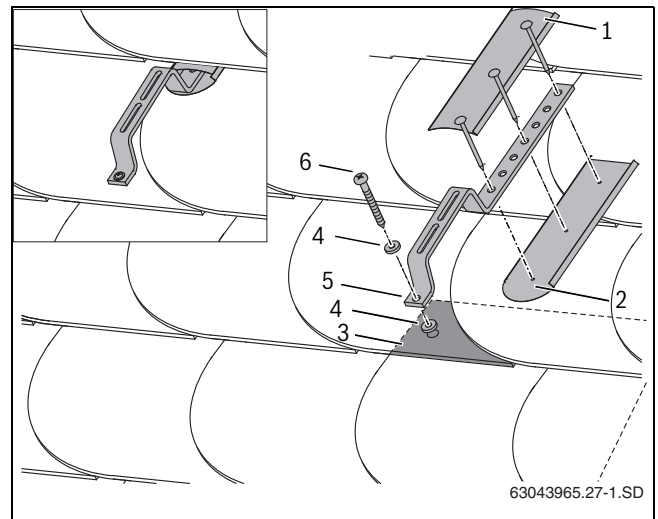

Fig. 25 Assembly for slat or batten roofs
The diagrams show the installation of a roof hook for special roofs and a sealed covering with boards to be applied by the customer (Fig. 25, [1] and [2]) on a slat or batten roof.
- Secure the special roof hooks (Fig. 25, [5]) and the insulation (Fig. 25, [4]) with the screw (Fig. 25, [6]) to the slat or batten roof.
- To ensure sealed installation, the customer should underlay the special roof hooks with boards (Fig. 25, [1] and [2]).
The special roof hook must be supported by a multiple layers (Fig. 25, [3]).